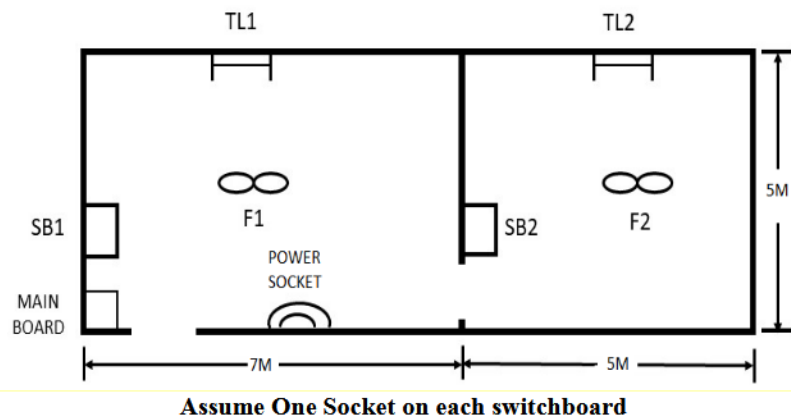

Fig.No.1
- 23) Draw wiring diagram for the residential load shown in Fig. No. 1